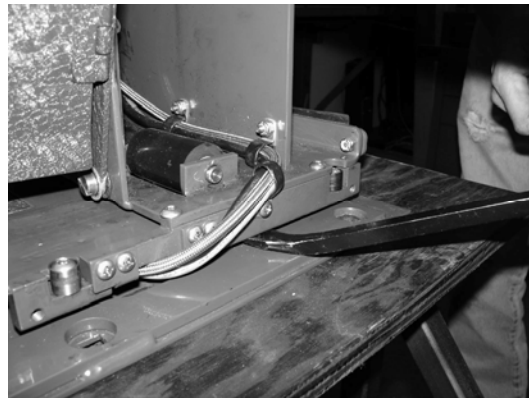

FIGURE 3-27
3. Refer to **Figure 3-27**. Pry up on front rail to remove lift weight on roller. Push pin bushings and sleeve out.